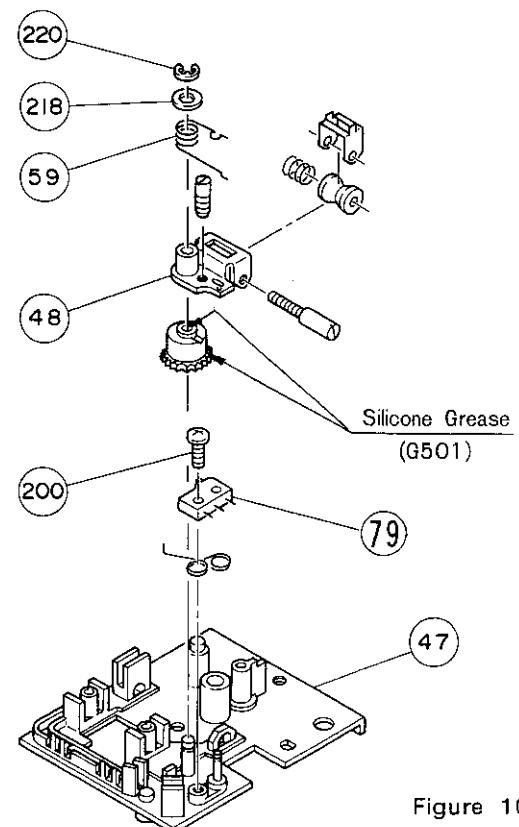

Figure 10
**(E) REMOVE THE SWITCH (79) ON THE PLATE ASSY (47) AS FOLLOWS:**
- Remove the E type Washer (220) 2φ on Plate Assy (47).
- Remove the Washer (218) and Spring (59).
- Remove the Lift angle Assy (48).
- Remove the Screw (200) (Fig. 10).